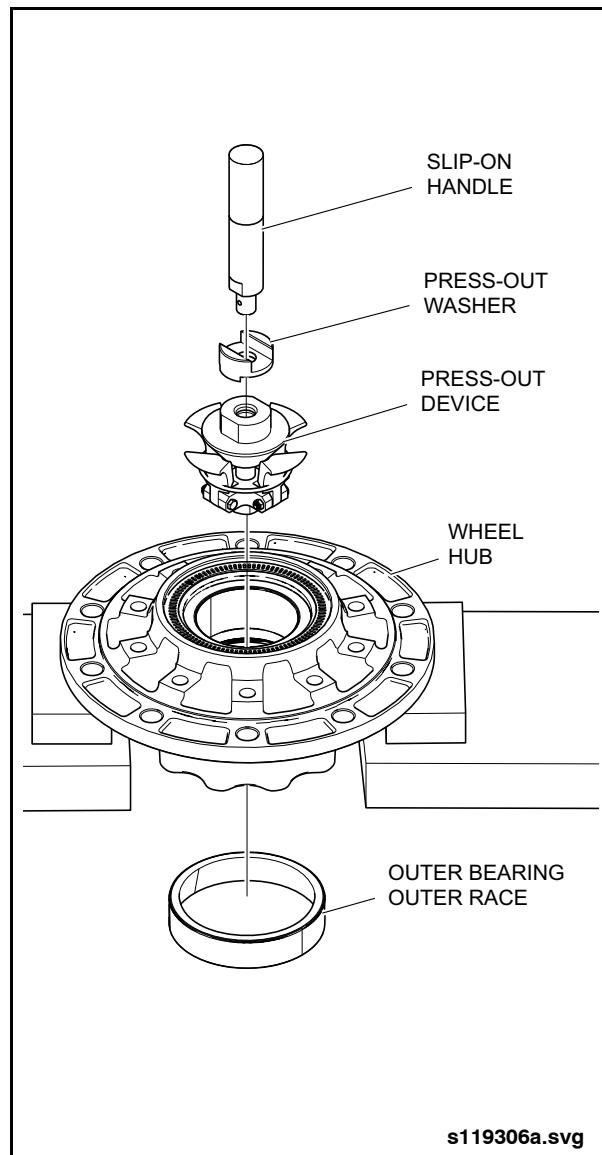

Fig. 2-21: Removing Outer Bearing Outer Race
1. Insert the Press-Out Device (Item 17 from special tools list) into the wheel hub. See "Fig. 2-21: Removing Outer Bearing Outer Race" on page 22.